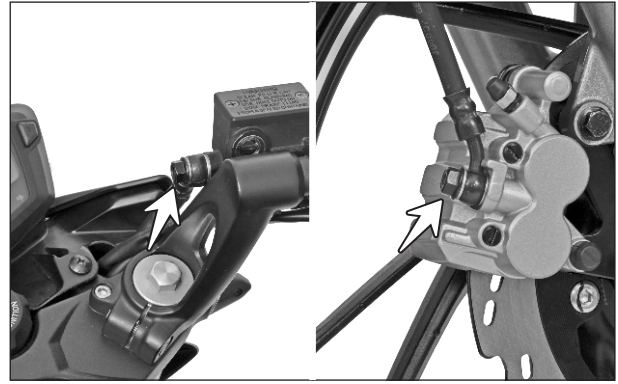

Fig. 6.22
- Remove the banjo bolt (2 nos.) along with gaskets (2 nos. on each side) from both the ends of the hose complete brake. (Fig. 6.22)